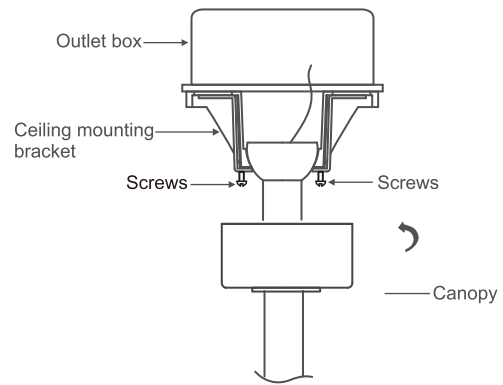

Fig 11
Step 1. Install the blade onto the fan motor using the screws & washers provided in the part bag. See figure 11.